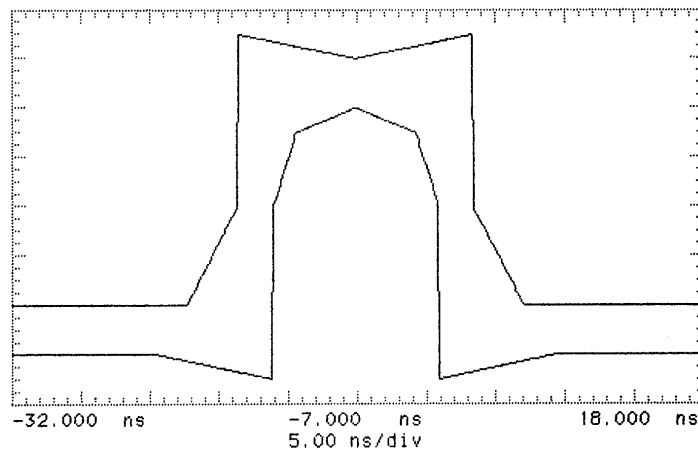

Figure 3-18
67. Press SHIFT **AUTOSCALE** on the oscilloscope to automatically align the pulse to the mask. Verify that the pulse falls within the mask as shown in Figure 3-18.
If your oscilloscope does not have the Mask feature, obtain a printout of the displayed pulse. Place the mask shown in Figure 3-18 over the pulse and ensure that the pulse falls within the mask (a transparent copy of the mask should be used).
71. Adjust the oscilloscope timebase, delay and vertical sensitivity controls to verify that the pulse meets the mask as shown in Figure 3-18. Use the displayed settings as a guide.